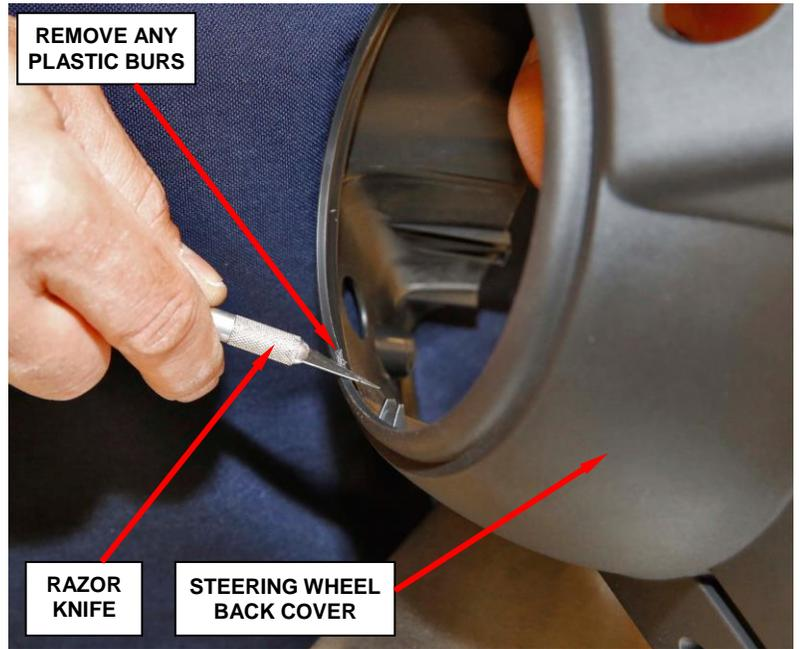

Figure 9 – Remove any Burs from Opening
23. Remove any burs from the new steering wheel back cover (Figures 9 and 10).